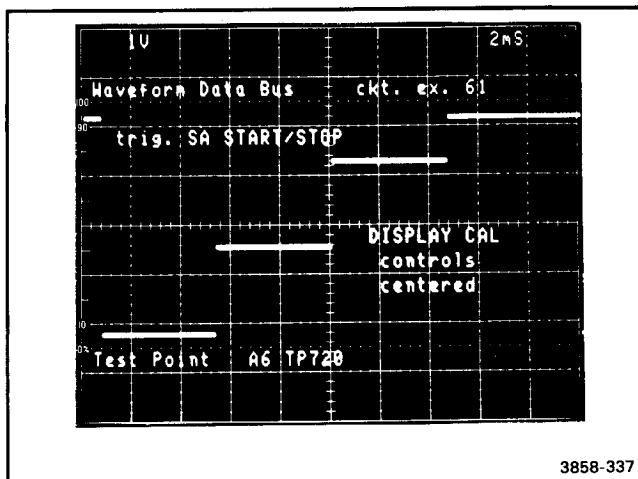

Figure 3-17. Waveform produced by Waveform Data Bus test.
- 33) Waveform Data Bus (61). If this test fails, place the Display Board on an extender and run circuit exercise 61. Use an oscilloscope to troubleshoot the Waveform Data Bus. Waveform Figure 3-17 is a typical output of this test. The SA Start/Stop line provides a stable oscilloscope trigger while using this test for troubleshooting.